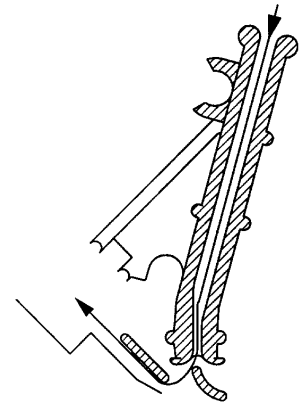

Figure 5a
5. Thread the tabs into the L-250/350 following the TAB THREADING DIAGRAM [Figure 5a].